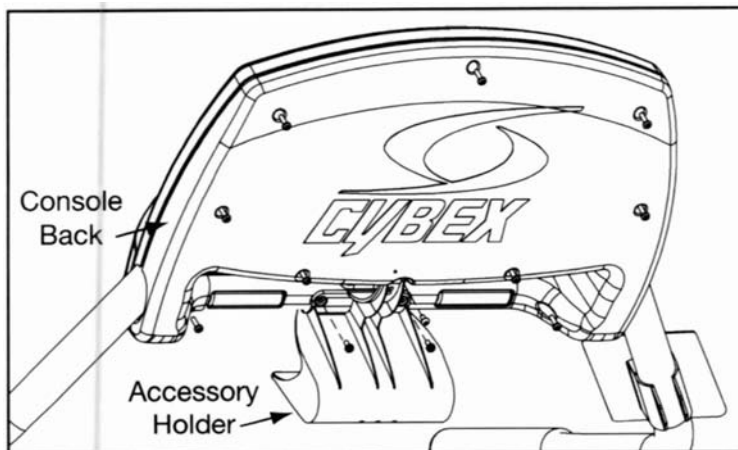

Figure 15
- A. Remove the eleven Phillips head screws on the console back. Leave the top screw which holds the accessory holder in place. The top screw will keep the accessory holder in place on the console back. Set the console back and screws aside. See Figure 15.
- A. Turn the main power switch in the front panel to the off (0) position.